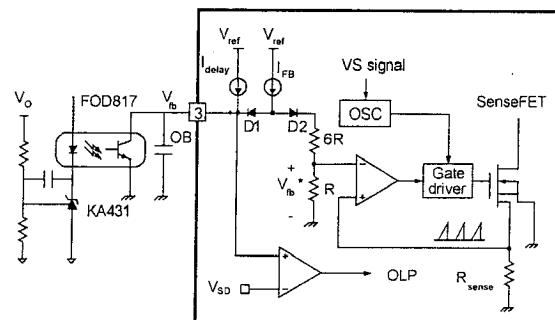

Figure 14. Valley Switching Pulse Width Modulation (VS-PWM) Circuit
2. Feedback Control: This device employs current mode control, as shown in Figure 14. An opto-coupler (such as the FOD817) and shunt regulator (such as the KA431) are typically used to implement the feedback network. Comparing the feedback voltage with the voltage across the R_{sense} resistor makes it possible to control the switching duty cycle. When the reference pin voltage of the shunt regulator exceeds the internal reference voltage of 2.5V, the opto-coupler LED current increases, pulling down the feedback voltage and reducing the drain current. This event typically occurs when the input voltage is increased or the output load is decreased.
2.1 Pulse-by-Pulse Current Limit: Because current mode control is employed, the peak current through the SenseFET is limited by the inverting input of PWM comparator (V_{fb}^*), as shown in Figure 14. Assuming that the $225\mu A$ current source flows only through the internal resistor ($6R + R = 12.6 \text{ k}\Omega$), the cathode voltage of diode D2 is about 2.8V. Since D1 is blocked when the feedback voltage (V_{FB}) exceeds 2.8V, the maximum voltage of the cathode of D2 is clamped at this voltage, thus clamping V_{FB}^* . Therefore, the peak value of the current through the SenseFET is limited.